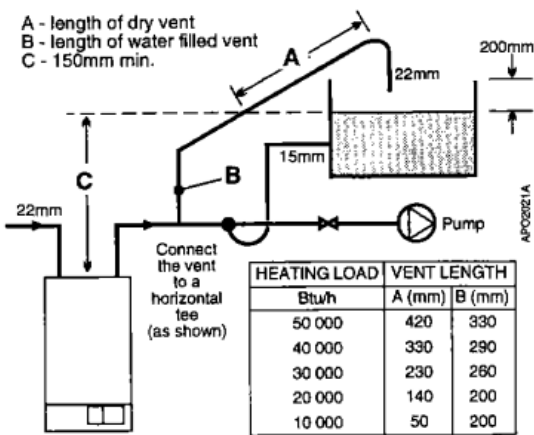

Fig.3
b. Length of wet and dry vents for close coupled cold feed - see Fig. 3.